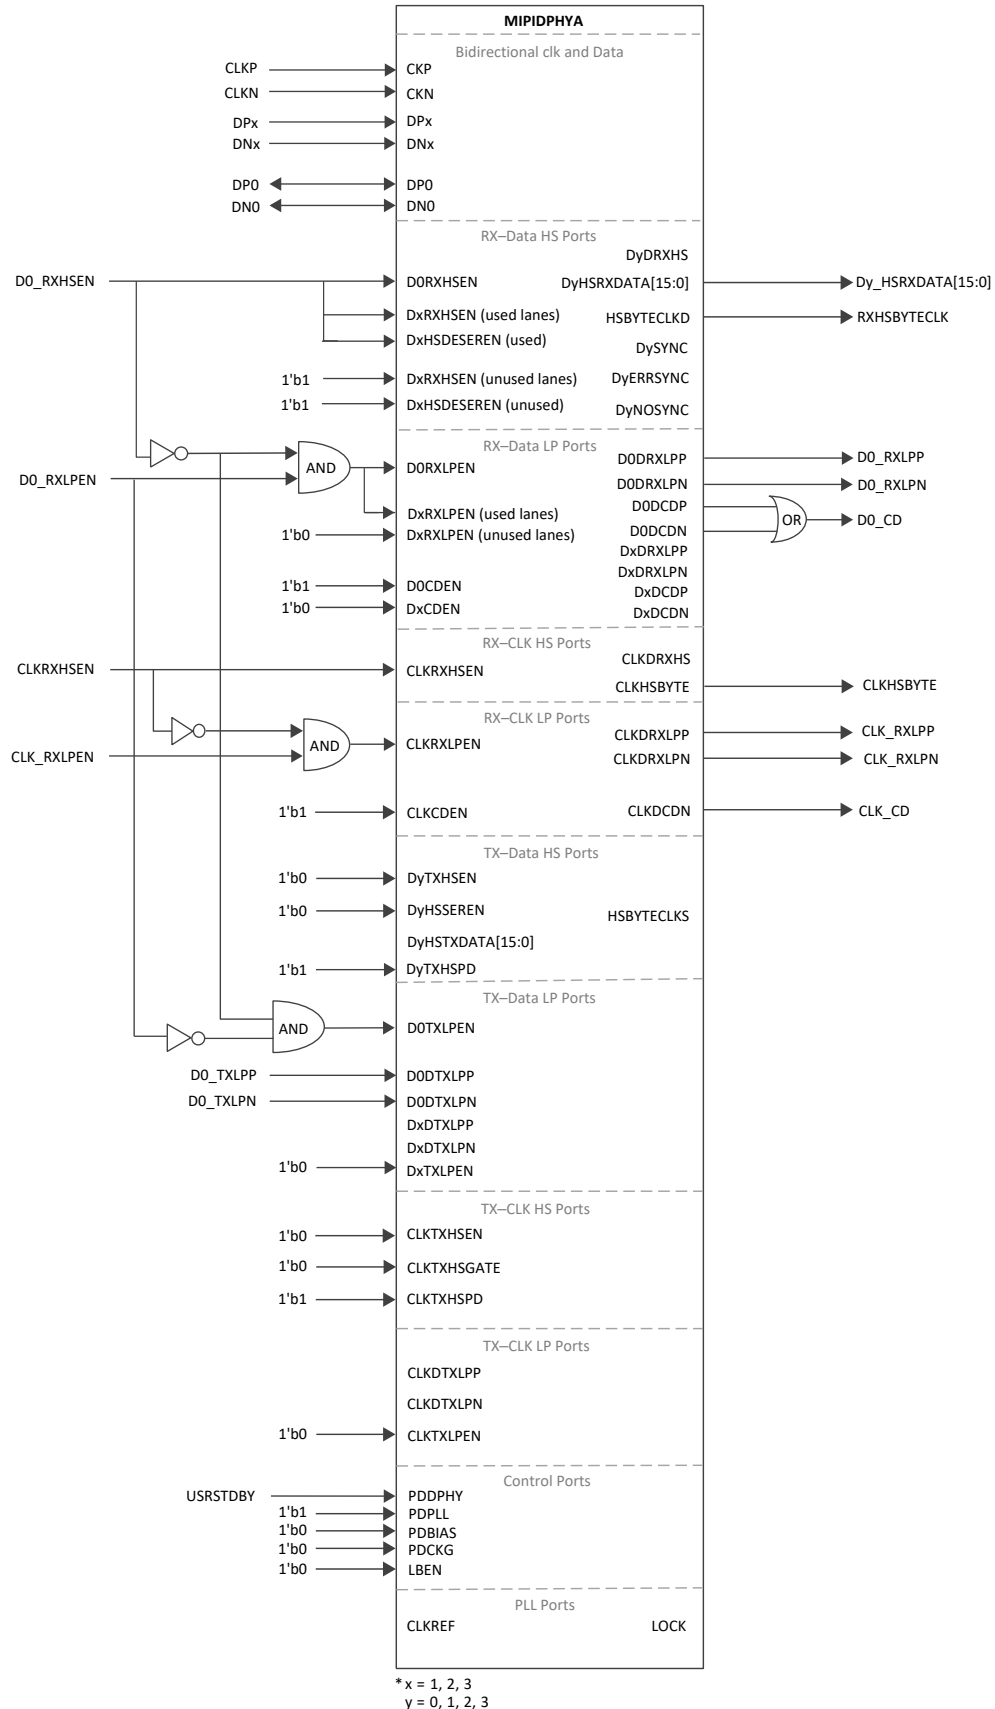

Figure 5.16. MIPI DSI Receive Interface with Hard D-PHY Module
- Figure 5.16 on the next page shows the signals connected to the fabric and the automatic settings when the hardened D-PHY is configured for DSI receive mode. The Clarity Catalog user interface settings automatically powers down unused lanes of the hardened D-PHY.
- Only D0 and CLK bits are used in LP mode. Only D0 is used as a bidirectional pin. D1, D2, and D3 pins (when those lanes are used) should be toggled between LP/HS mode based on D0 state as shown in Figure 5.16.